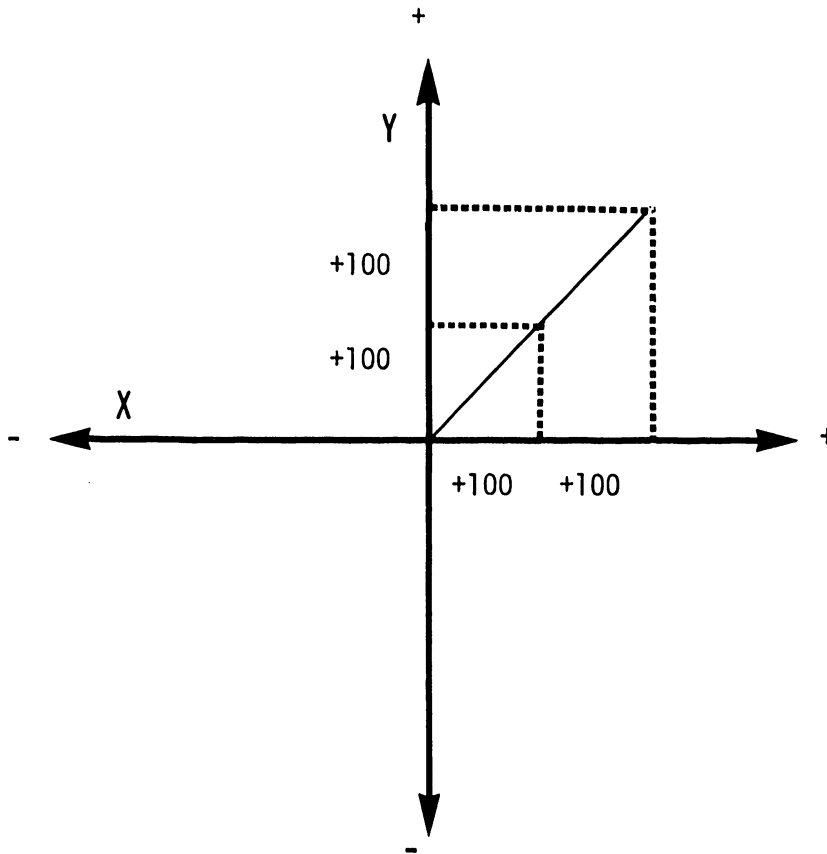

FIGURE 6
- 2) Assuming new zero reference axes, if the plot-pen down command is given twice, Figure 6 will result.